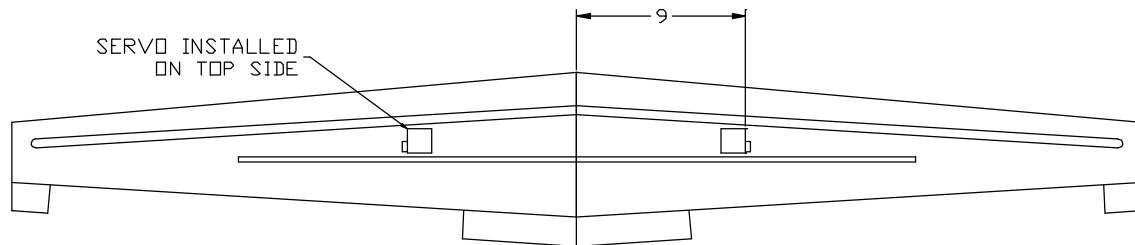

Figure 4
- ❑ Outline the servo locations using a permanent marker. (see figure 4)